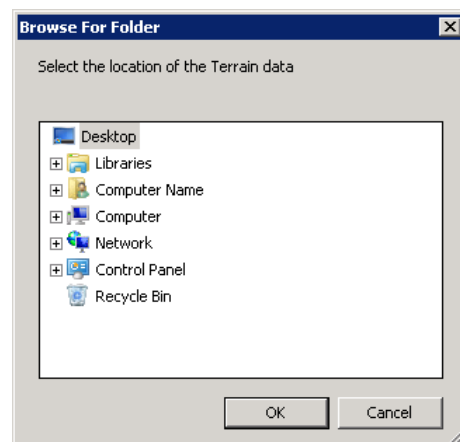

Figure 5-6 Browse for Folder Dialog Box
3. Navigate to a terrain file of the following formats: 3CD, DEM* or Grid Float (Figure 5-6).
- b. Navigate to the directory where the weather files are stored (Figure 5-6). AEDT 2a supports GEOS, NCAR, and RUC weather data.